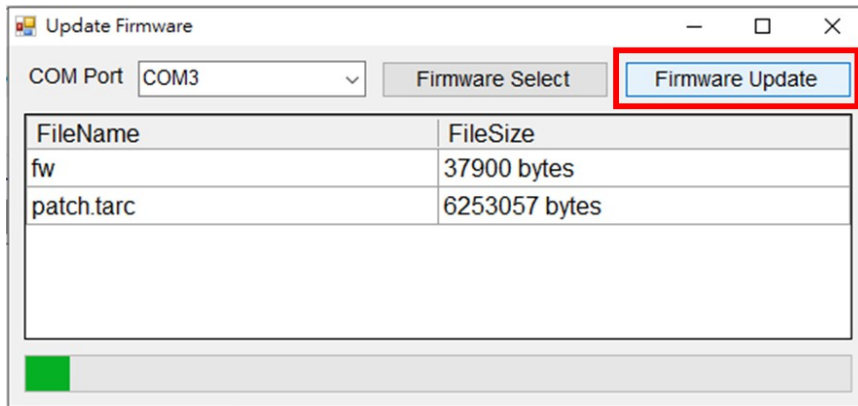

Figure 11.2.7
6. Click **Firmware Update**, as shown in Figure 11.2.7.